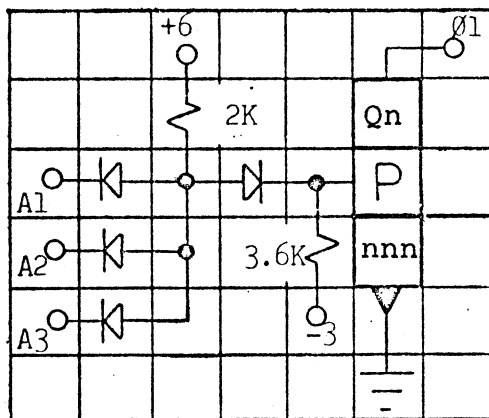

FIGURE 14
15.17.6 For a complete circuit using one SLT module, see example in Figure 14. You will note that only passive components require component value identification. Since the semi-conductors are SLT chips, they need not be identified.